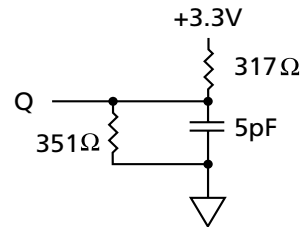

Figure 2
- The load used for V_{OH}, V_{OL} testing is shown in Figure 2. AC load current is higher than the stated DC values. AC I/O curves are available upon request.
3. This parameter is measured with the output loading shown in Figure 2 unless otherwise noted.